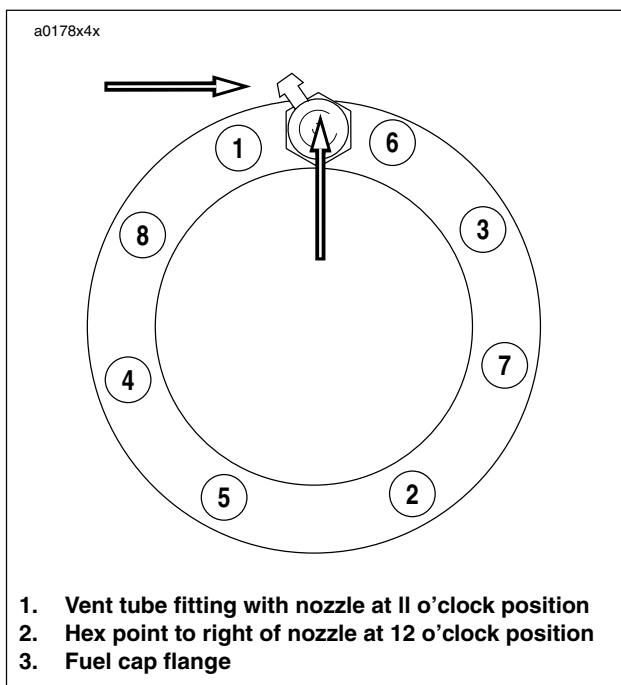

Figure 4-9. Filler Cap Flange Torque Sequence and Vent Tube Fitting Orientation
5. See Figure 4-9. Using the proper torque sequence, alternately tighten eight fuel cap flange screws until snug. Following the same pattern, final tighten screws to 20-22 **in-lbs** (2-3 Nm).